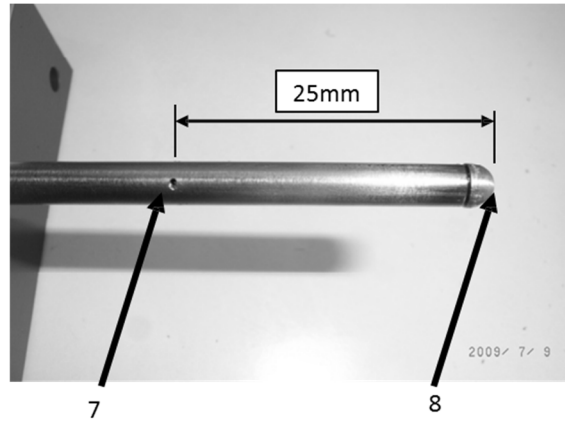
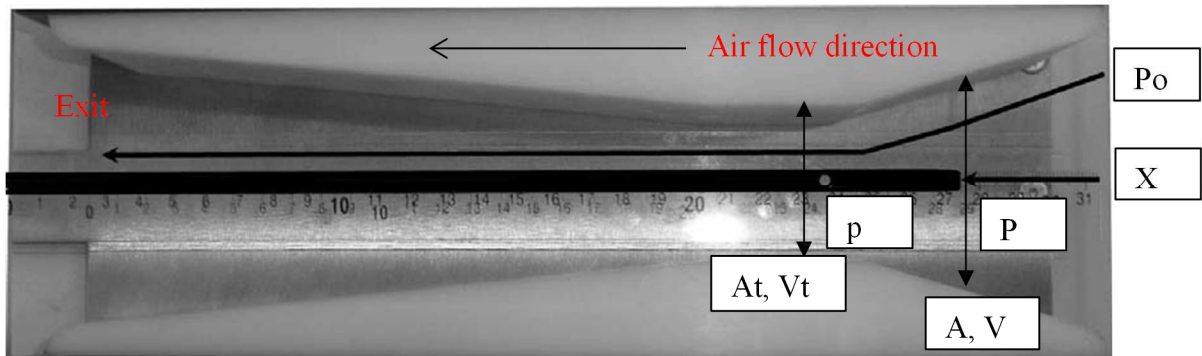

Figure 2. The *pitot-static tube(5)* head detail
Figure 3. Measurement of total and static pressure
This optional duct demonstrates the use of a pitot-static tube and the application of Bernoulli's equation along a convergent-divergent passage. The pitot-static tube head detail is shown in Figure 2. The static pressure (7) tapping is 25mm behind the total pressure (8) tapping. The total pressure tapping brings the flow immediately in front of it to a halt. By locating the pitot-static tube head in different positions, the static pressure and total pressure can be measured, as shown in Figure 3.